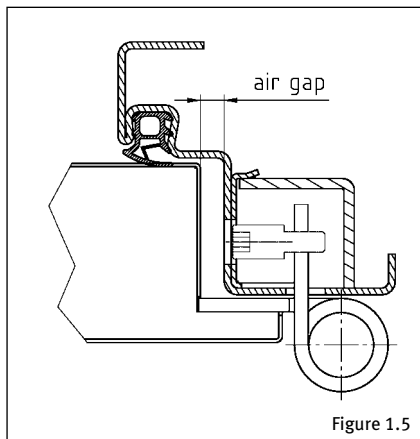

Figure 1.5
You can use an Allen key (SW 5) to adjust the air gap between the door leaf and frame in the rebate with screws (1) (Figure 1.5).